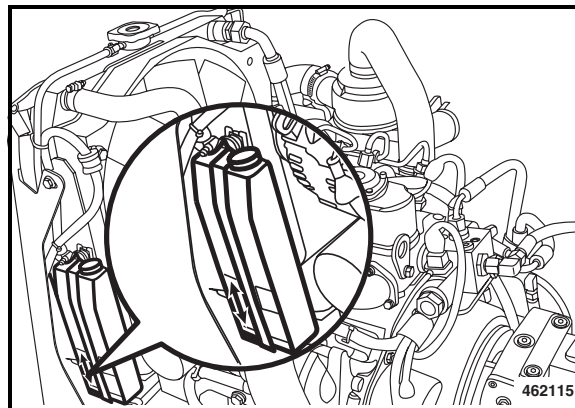

Fig. 118
- Check the coolant level in the compensation tank (Fig. 118).